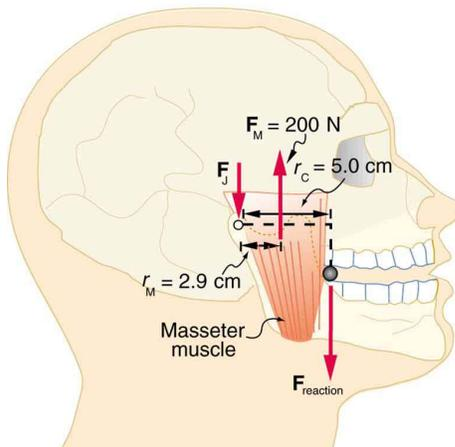

Figure 9.44 A person clenching a bullet between his teeth.
54. Unlike most of the other muscles in our bodies, the masseter muscle in the jaw, as illustrated in **Figure 9.44**, is attached relatively far from the joint, enabling large forces to be exerted by the back teeth. (a) Using the information in the figure, calculate the force exerted by the lower teeth on the bullet. (b) Calculate the force on the joint.